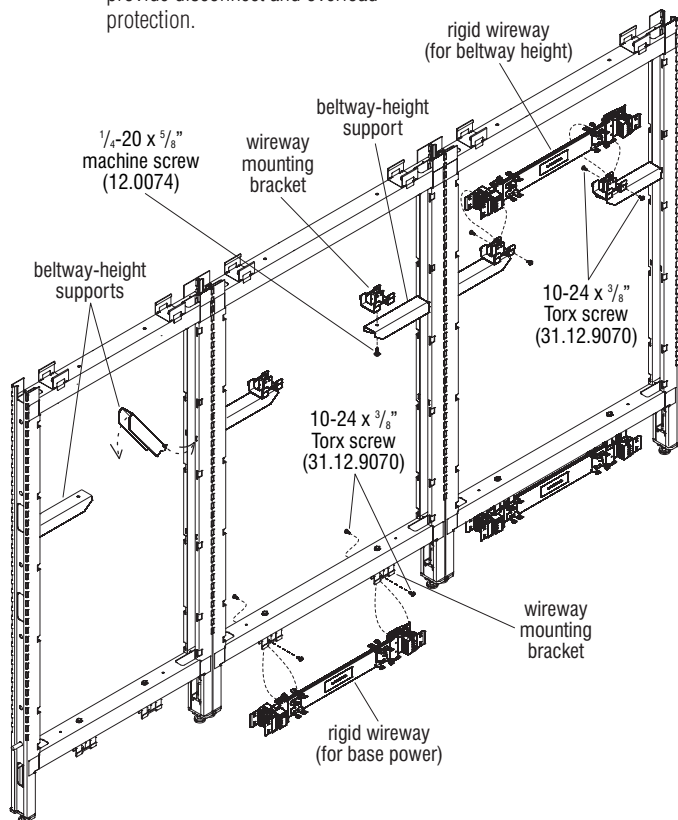
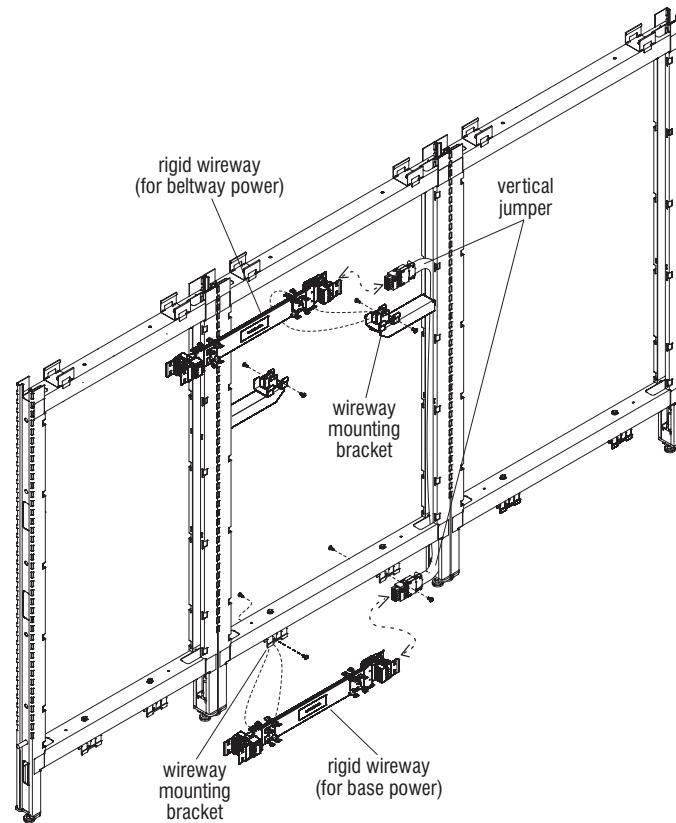

Figure 1 - Base & Beltway Rigid Wireways
Figure 2 - Base to Beltway Vertical Jumper
1. Position the rigid wireway under the lower horizontal frame member (N symbol oriented up) such that mounting tabs on the wireway fit up between the two tangs of the wireway mounting bracket. Align all four mounting holes of the wireway with the four holes of the wireway mounting bracket, and secure using two #10-24 x 3/8" Torx screw (31.12.9070) per bracket, one from each side of the rigid wireway. Use the left mounting holes on one side of the bracket, and the right mounting holes on the other side of the bracket so that mounting screws do not interfere with each other (Figure 1).
2. Repeat the above base power rigid wireway installation for all panels that are powered, or will have power passing through them, per your space-planning layout (Figure 1).
**Note:** If vertical power jumpers are to be used between base power and beltway rigid wireways in any panel frame, refer to page 24, Figure 2 as vertical power jumpers should be installed before rigid wireways.
1. At 30" beltway height, install beltway-height supports into the vertical frame member by tipping the inside of each support up, inserting the hook-tabs into the vertical slots, and rotating the support down into horizontal position as illustrated. Repeat for second required beltway-height support across from the first (Figure 1).
2. Install a wireway mounting bracket to the mounting hole of each beltway-height support using 1/4-20 x 5/8" machine screw (12.0074), as illustrated from underneath each support. Make sure bracket is aligned straight onto support before tightening (Figure 1).
3. Position a rigid wireway above the pair of beltway-height wireway mounting brackets (N symbol oriented up) such that mounting tabs on the wireway fit in between the two tangs of the wireway mounting bracket. Align all four mounting holes of the wireway with the four holes of the wireway mounting brackets, and secure using #10-24 x 3/8" Torx screw (31.12.9070) screws per bracket, one from each side of the rigid wireway. Use the left mounting holes on one side of the bracket, and the right mounting holes on the other side of the bracket so that mounting screws do not interfere with each other (Figure 1).
4. Repeat the above beltway-height power rigid wireway installation for all panels that are powered, or will have power passing through them at beltway height, per your space planning layout (Figure 1).
1. At the location specified for a vertical jumper, route the jumper into the vertical post cavity of the panel frame, and route the ends out just above and below the wireway mounting brackets as illustrated (Figure 2).
2. Snap the lower vertical wireway end into the base-power rigid wireway, and attach wireway to the wireway mounting brackets as described on page 23, Figure 1. Next, snap the upper vertical wireway end into the beltway-power rigid wireway and secure wireway to wireway mounting brackets on beltway-height support (Figure 2).